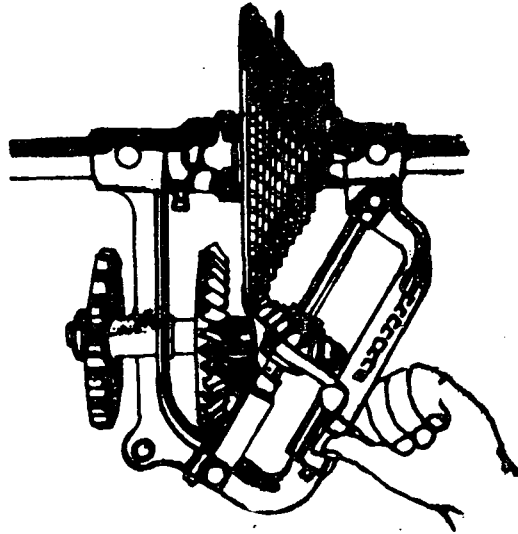

Fig. 2
- By changing the speed at which the feeder rotates (Fig. 2).
To change the speed of the feed wheels a special multiple gear is used. It consists, essentially, of a disc or cone with rings or concentric teeth arranged (Fig. 2) on a circular surface. Note that the outer ring has more teeth than the preceding one.